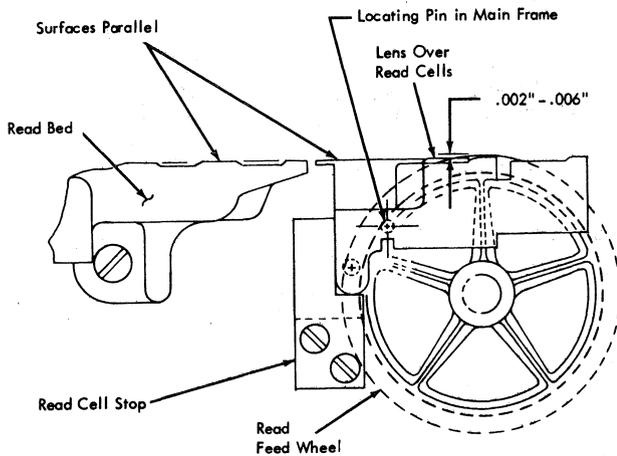
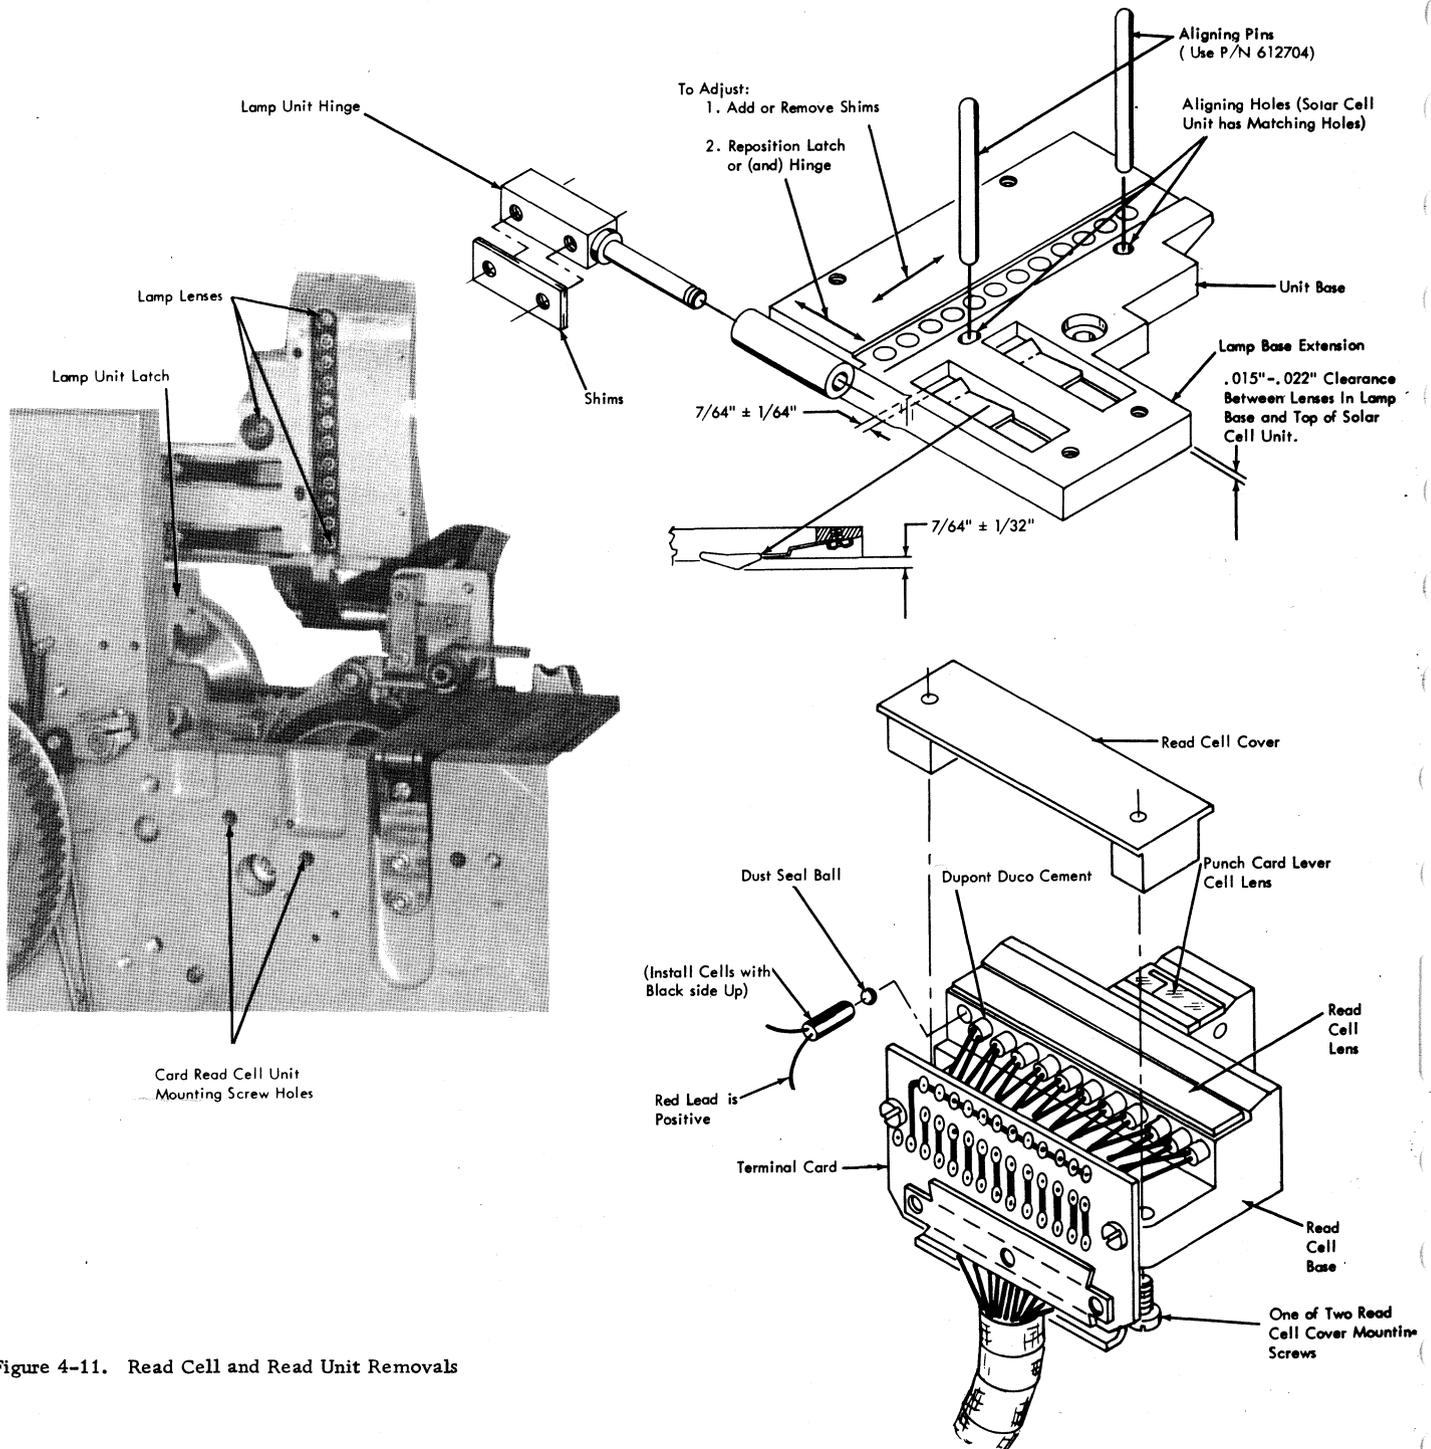

Figure 4-10. Read Cell Unit Adjustment
Figure 4-11. Read Cell and Read Unit Removals
Position cell unit over its locating pin so top of read cell lens is parallel to the card line and below periphery of read feed wheel by .002" to .006" (Figure 4-10).
A read cell stop is provided as a reference in case of future cell unit removal. With the solar cell unit adjusted, set the read cell stop against the surfaces of the cell unit as shown in Figure 4-10.
The read cell unit is fastened to the main machine frame by two mounting screws. These screws are located under the left end of the card hopper bed (Figure 4-11) and are accessible from the front of the machine. To remove read cell unit, loosen the mounting screws. When replacing the cell unit, be certain it is firmly against the stop (Figure 4-10) before tightening mounting screws.
1. Remove card read solar cell unit. See Figure 4-11.
- c. Insert timing pins through alignment holes in lamp unit and cell unit. See Figure 4-11.
- d. If the timing pins are tight, add or remove .002" shims between hinge and machine frame, or reposition hinge and latch. See Figure 4-11.
Adjust the springs so their ends will be $.105 \pm .010''$ from the end of the lamp base opening (Figure 4-11). Tilt lamp unit open and check for free spring position shown (Figure 4-11), replace or form as required. Spring must move freely within opening.